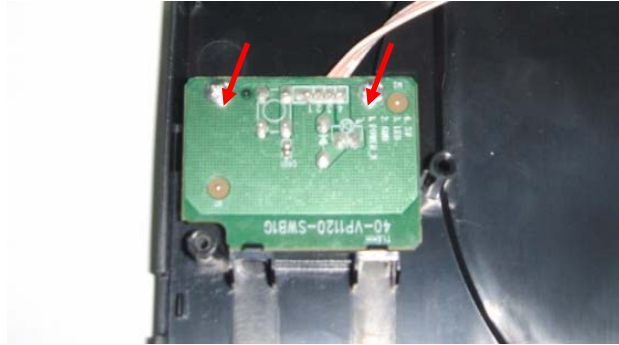

Figure 9
Step6: Dismantling switch board: disconnect the 2 screws, then can remove the switch board. (Figure9)